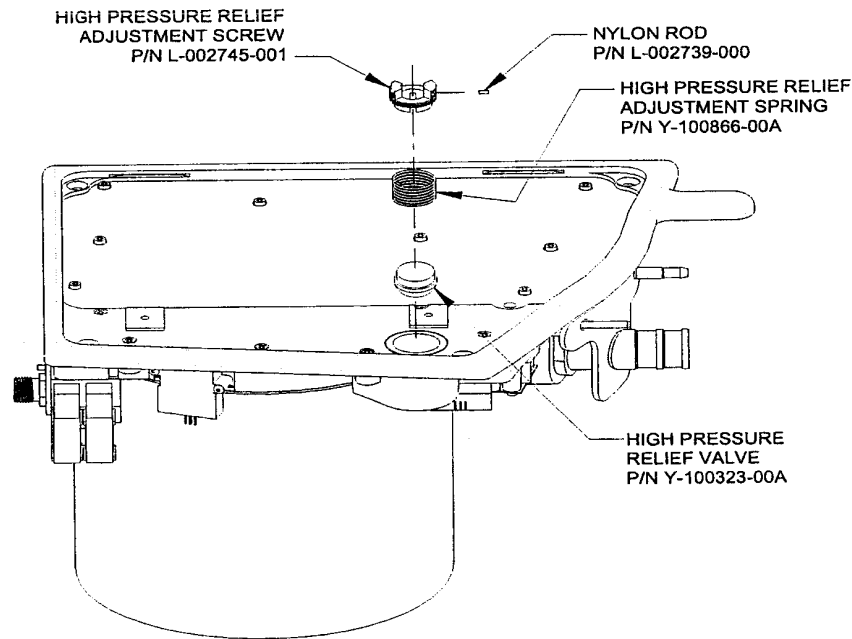

FIGURE 4-28.
3. Use the HPR adjustment tool (P/N L-003071-000) to tighten the screw approximately 1 1/2 complete revolutions clockwise. See Figure 4-28.